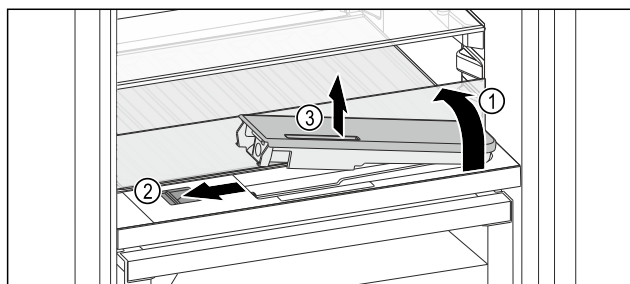

Fig. 129
- ▶ Lift the glass panel and fold towards the rear until it clicks into place Fig. 129 (1).
- ▶ Slide the slider Fig. 129 (2) to the left.
- ▶ Remove the water tank Fig. 129 (3).